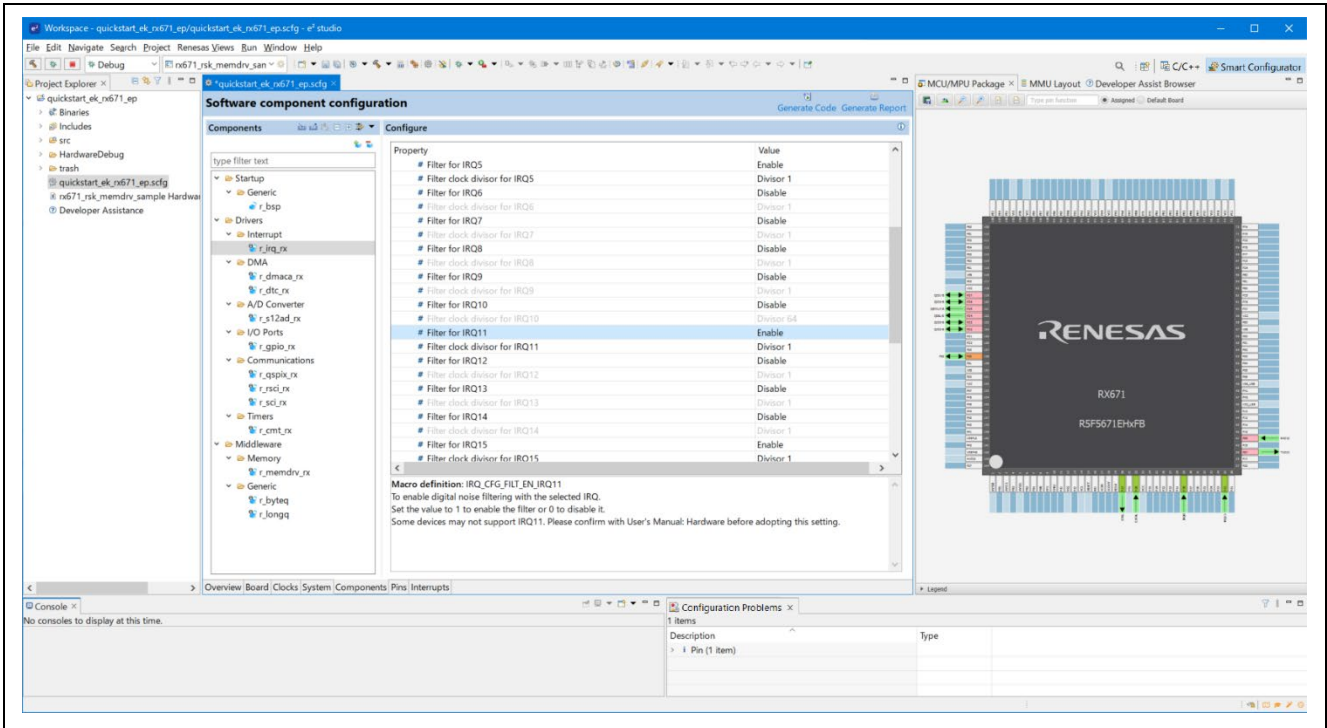

Figure 21. Modifying the Configuration Settings
- For example, in the **Components** tab of the configurator, the user can click to select a module to modify its configuration settings, as required. **Figure 21** illustrates modifying the **IRQ** configuration.